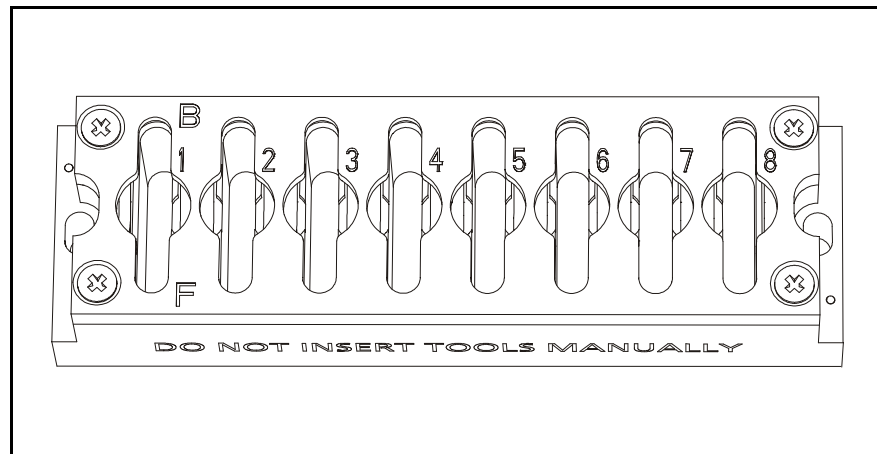

Figure 7-7. Standard tool bank
The first tool tube (position 1 in the HYDRA unit) fetches a tool from one of the two tool slots with index number 1 in the tool bank, see Figure 7-7. The second tool tube (position 2 in the HYDRA unit) fetches from one of the slots marked 2 and so on.
- Standard type for 500 T2 conveyor and 288, 468 and ML 3 – 6, T5, and T6 tables, see Figure 7-7.